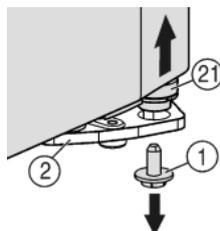
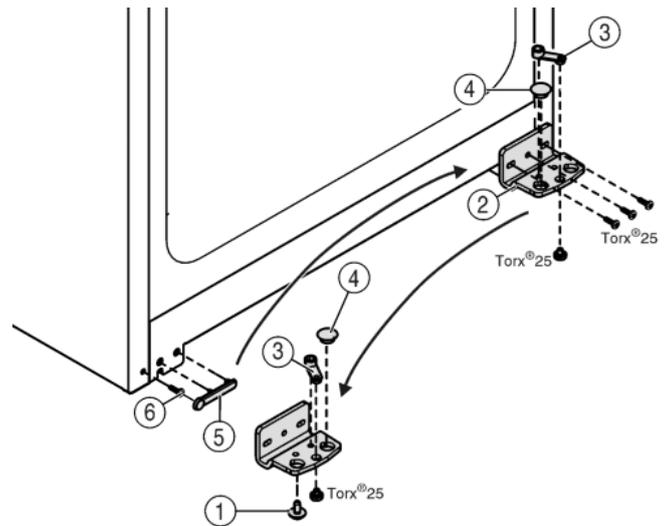

Fig. 4
Fig. 5
- ▷ The bearing pin *Fig. 4 (21)* should come out of the turn hinge *Fig. 5 (2)*.
- ▶ If the bearing bolt *Fig. 4 (21)* doesn't undo press it out from underneath.
- ▶ Unscrew the turn hinge *Fig. 5 (2)*.
- ▶ Unscrew the bearing element, *Fig. 5 (3)* transfer it to the opposite location hole of the turn hinge and screw it firmly into place.
- ▶ Take the stopper *Fig. 5 (4)* out of the turn hinge and transfer it to the receiving hole on the opposite side of the turn hinge.
- ▶ Carefully lift off the cover *Fig. 5 (5)* on the handle side.
- ▶ Undo the screw *Fig. 5 (6)* and transfer it to the opposite side.
- ▶ Put the cover *Fig. 5 (5)* back on.
- ▶ Screw the turn hinge *Fig. 5 (2)* firmly into place on the new hinge side (**with 4 Nm**), possibly using a power screwdriver.
- ▶ Insert the securing screw Fig. 4 (1) at the bottom into the bearing pin and tighten it (**with 4 Nm**).